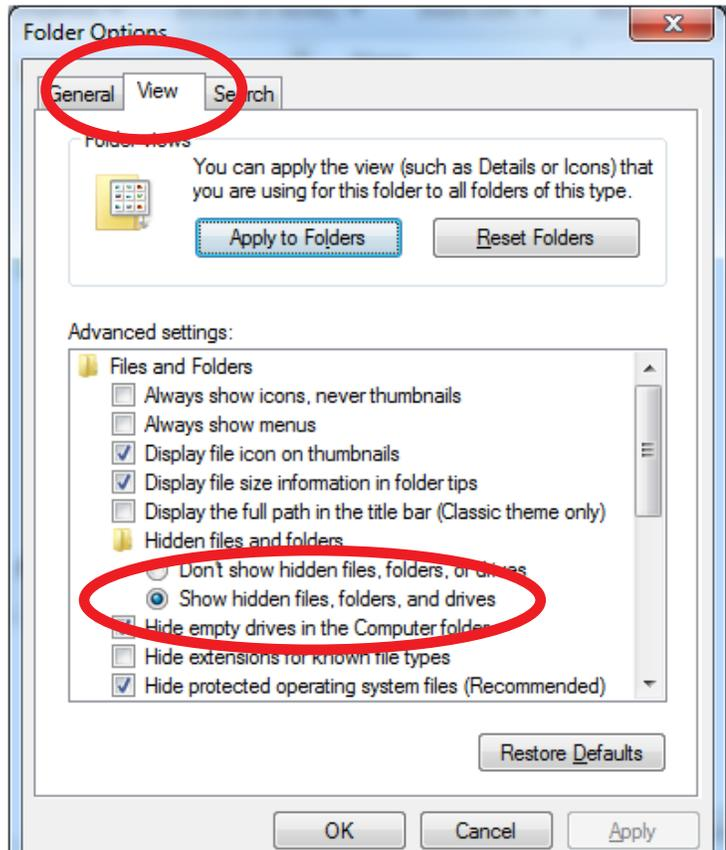

Figure A3.2
- e. In the Advanced Settings area, select "Show hidden files, folders, and drives" radio-button (Figure A3.2).